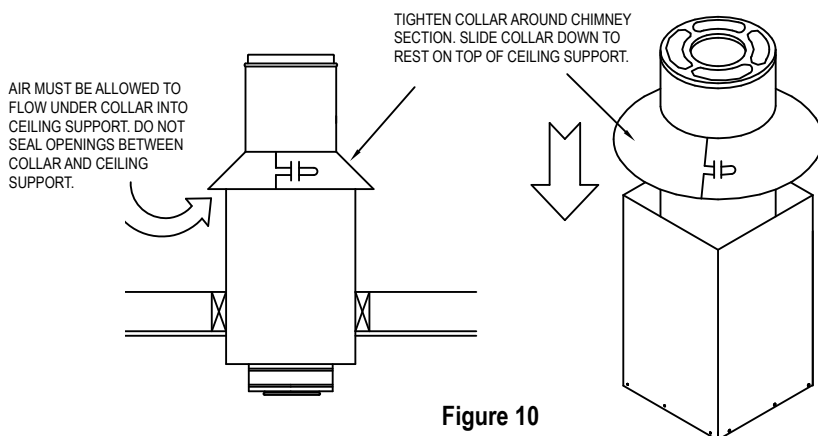

Figure 10
Step 7. Install Collar above CAS Ceiling Support. At the top of the CAS Ceiling Support, install the Collar around the first chimney section. The Collar prevents debris from falling into the Ceiling Support, while also allowing intake air to enter the CAS system. The Collar should rest on top of the Ceiling Support (**Fig 10**). The air enters into the Ceiling Support underneath the Collar. Important: Do not seal the openings between the Collar and the Ceiling Support; this is how the stove gets its air for combustion with the CAS system.